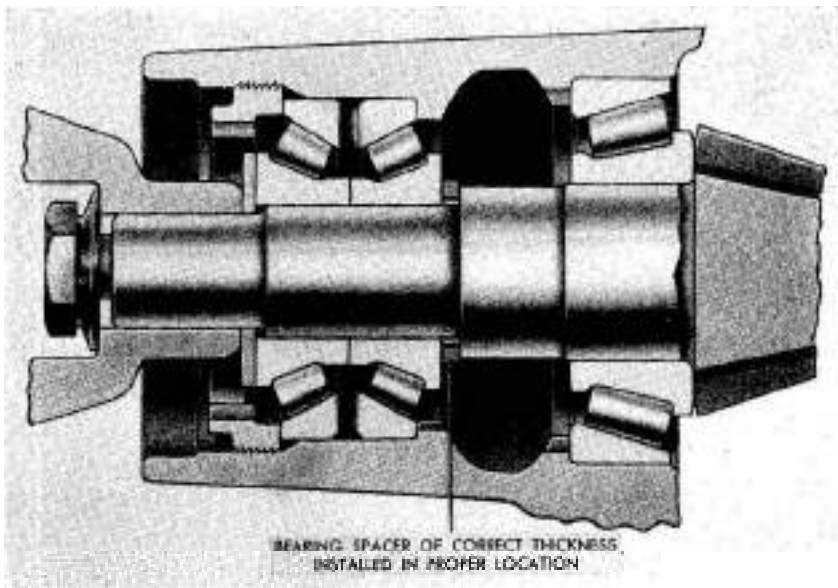

Figure 86. Location of drive pinion bearing spacers for final assembly.
- (4) If a different bearing spacer is required to obtain a correct preload of the rear bearing and front bearing outer cone, repeat operations (1), (2), and (3) above.
- (5) Remove drive pinion from carrier. Remove spacer and inner bearing cone from drive pinion. Place selected bearing spacer (*fig. 86*) on drive pinion followed by inner bearing cone. Set parts aside for final assembly.